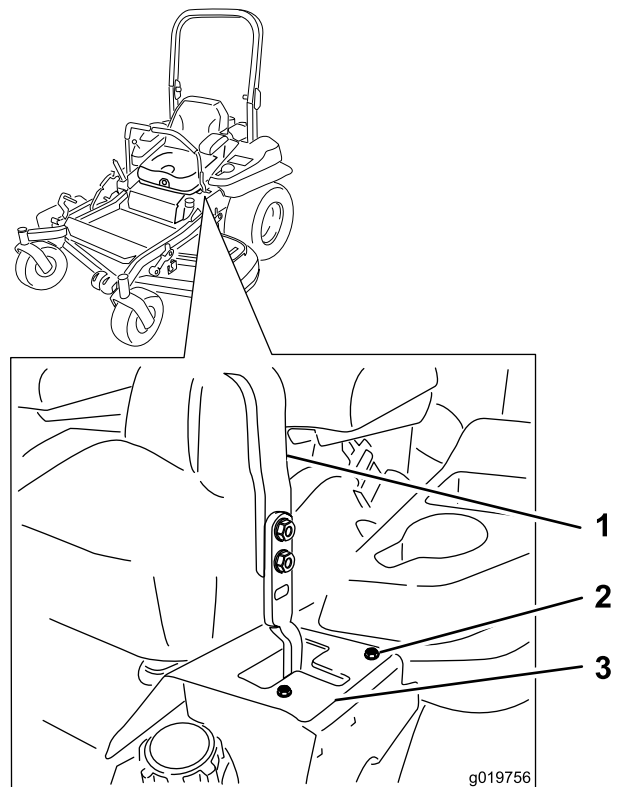

Figure 62
6. If it tracks to the right, loosen the bolts and adjust the left stop plate rearward on the left T-slot until the machine tracks straight (Figure 62).
7. If it tracks to the left, loosen the bolts and adjust the right stop plate rearward on the right T-slot until the machine tracks straight (Figure 62).
8. Tighten the stop plate (Figure 62).